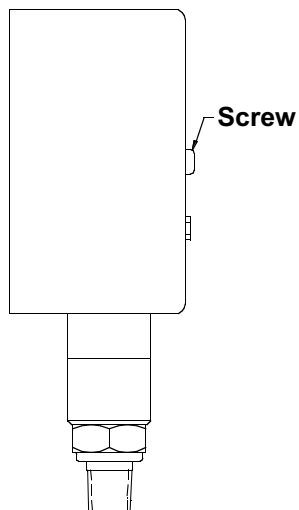

Figure 1
1. Loosen the screw on the rear of the gauge (see Figure 1).
1. Remove the screw from the rear of the gauge (see Figure 1).